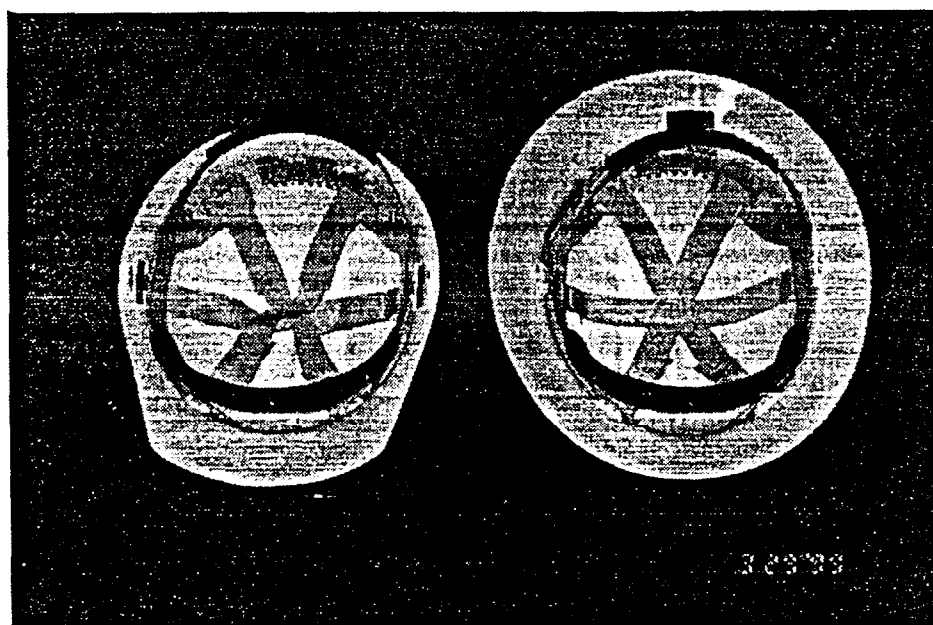

Figure 2 – C Safety Cap & Hat Suspension
- 2.02 The suspension for the caps (Fig. 2) consists of a ratchet adjustable molded plastic band with a sweatband and straps attached. The straps in both cap and hat are in a fixed position to ensure proper clearance between the top of the head and the inside of the crown. A nape strap is provided as an integral part of the suspension.